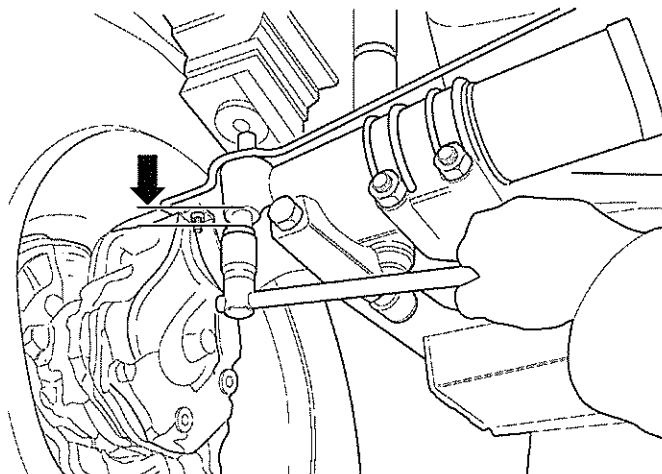

Fig 14 Leaf spring support bolt
8.8 Unscrew spring support bolt of second rear axle by approximately 15 - 20 mm (see Fig 14).